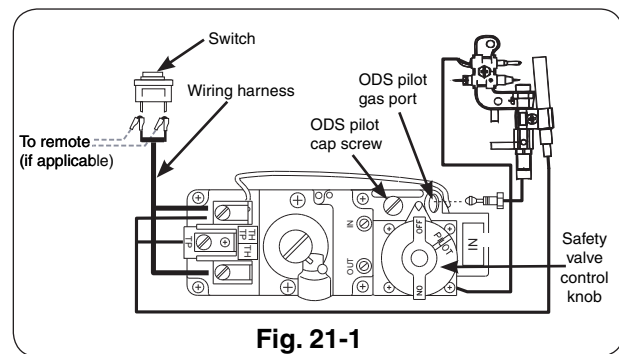

Fig. 21-1
To read the safety valve control knob (Fig. 21-1), read the marking nearest the teardrop-shaped metal pointer.
- b. If adjustment is necessary, remove the cap screw (Fig. 21-1) and turn the smaller gas adjustment screw inside counterclockwise ↻ to increase the ODS pilot flame, and clockwise ↻ to decrease the ODS pilot flame. Replace the cap screw.